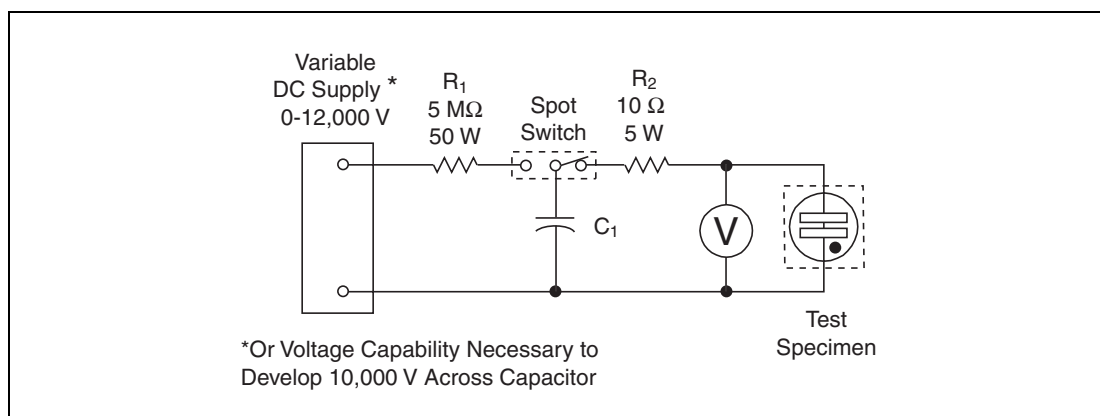

Figure 4.13 UL 497B Discharge Test
4. Discharge Test — Protectors must comply with strike voltage requirements after being subjected to five successive discharges from a 2 μ F capacitor charged to 1000 V dc. (Figure 4.13)
voltage after being subjected to 500 discharges from a $0.001 \mu\text{F}$ capacitor charged to 10,000 V dc. The discharges are applied in five-second intervals between one side of the protector and Ground. Upon completion of the discharge tests, protectors are once again required to meet the strike voltage requirement. (Figure 4.13)